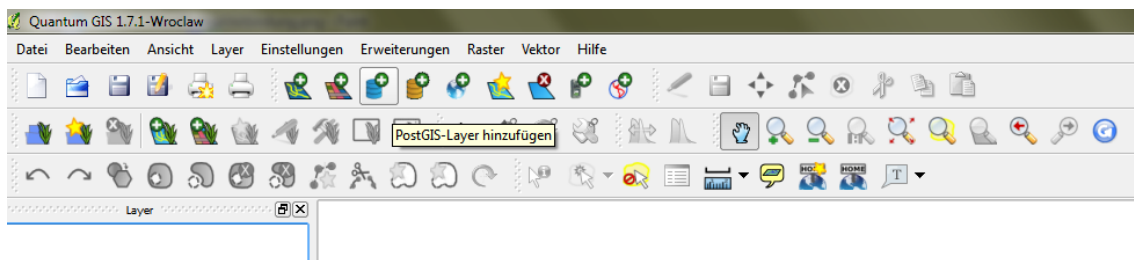

Figure 5.9: Create a new Layer.
- Create a new Layer (see Figure 5.9)